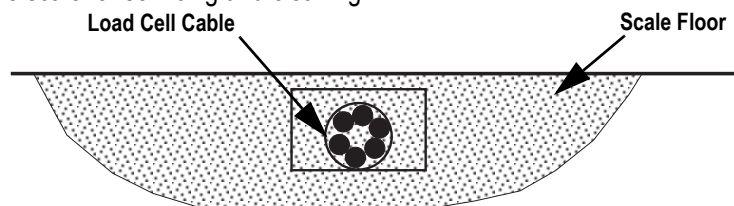

Figure 2-3. Cable Protection
7. The cable must be routed to the indicator in a manner that will protect the cable from damage. The method of cable protection in non-washdown applications is shown in Figure 2-3. Leave a loose coil of excess cable under the scale to facilitate lifting of the scale for servicing and cleaning.